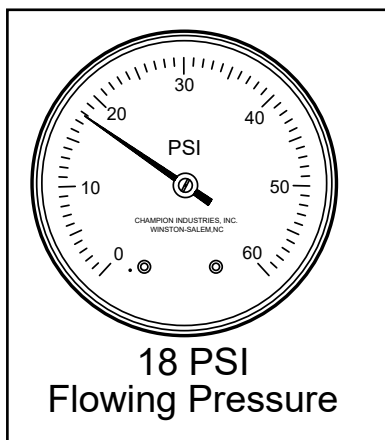

Fig. 9 - Final rinse pressure gauge
5. Monitor the pressure gauge to ensure it indicates 18 PSI flowing pressure during the final rinse, (Fig. 9).